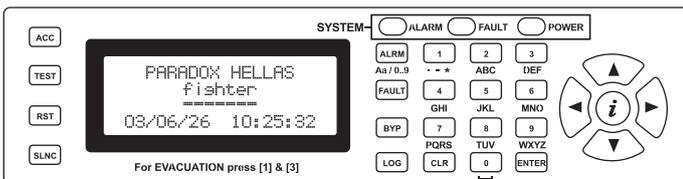

Figure 9. FighterXT keypad
Each keypad (Figure 9) has several buttons with some having different functions depending on the system's state. The following table summarizes each key's functionality:
- **T9 entry mode:** Each key has a set of characters (4 or 5) that are selected by promptly pressing the same key as many times needed. The characters allocated to each key are printed above them on the keypad mask (Figure 9). This mode is very popular with cellular phones and used for SMS text messaging.